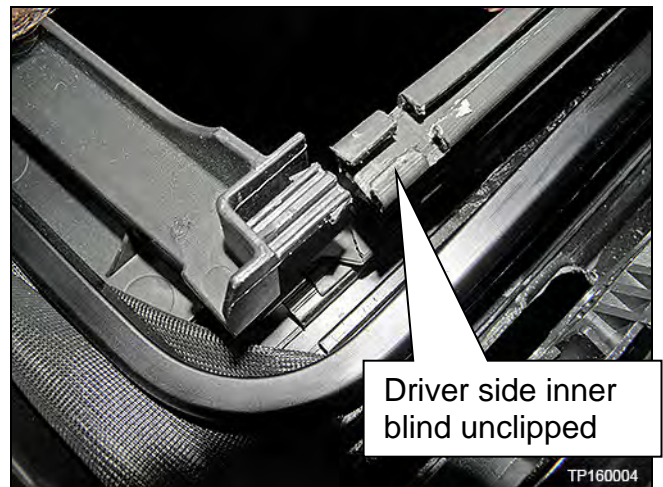

Figure 46
- Figure 46 shows inner blind unclipped.